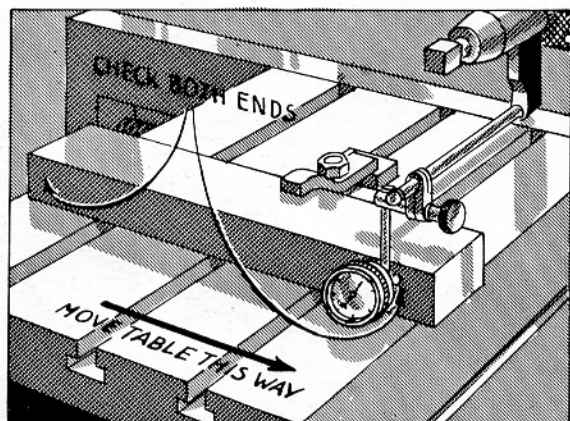

FIG. 307
12. Align very accurate work with a dial indicator instead of a square. Clamp the indicator in the tool post with its contact point against the front face of the work. Move the work crosswise by means of the crossfeed screw to determine the amount the work is out of alignment. Adjust the work in the same manner as before, until the indicator reading does not change during the movement of the table and work (Fig. 307).